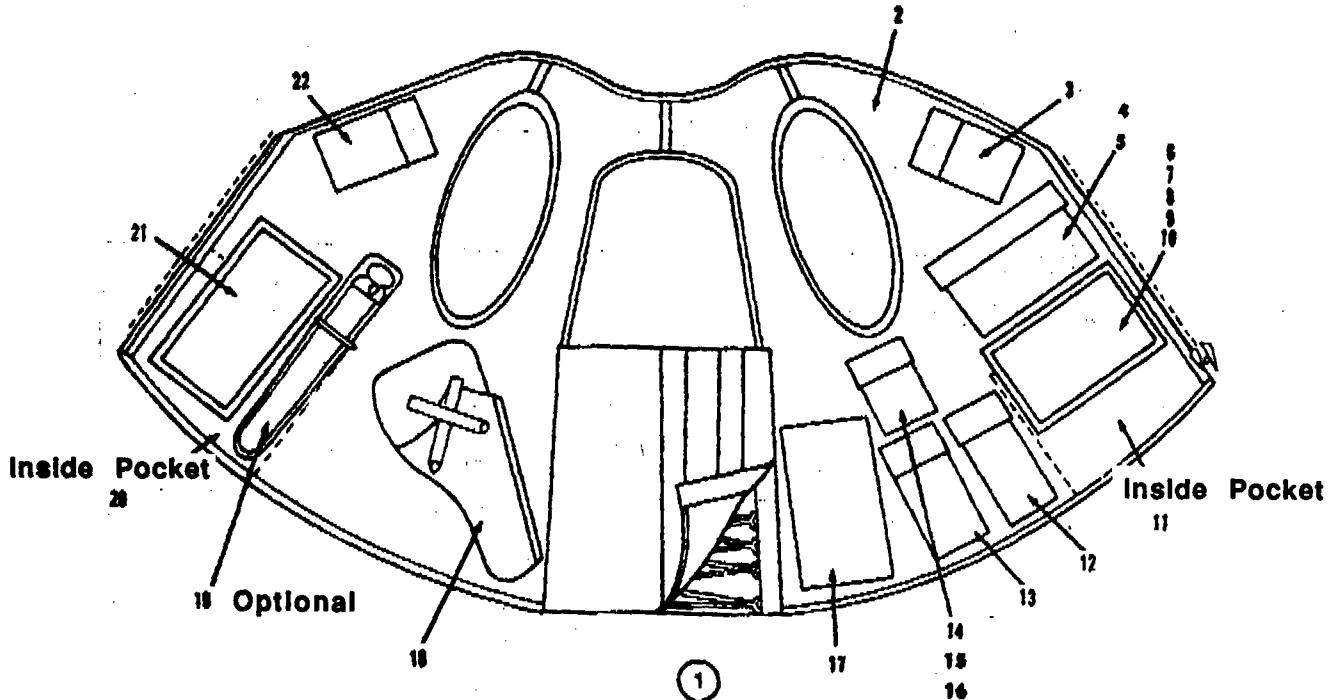

Figure 3-14. Individual Survival Kit Vest-Type SRU-21/P.
Two (2) survival kits are available to aircraft crewmembers for use when flying. The first is the Individual Hot Climate Survival Kit, which remains onboard each aircraft, one (1) each per crewmember. Figure 3-13 illustrates the components of the kit. The second kit is the Individual Survival Kit Vest-Type SRU-21/P (Figure 3-14). It is issued to individual crewmembers.